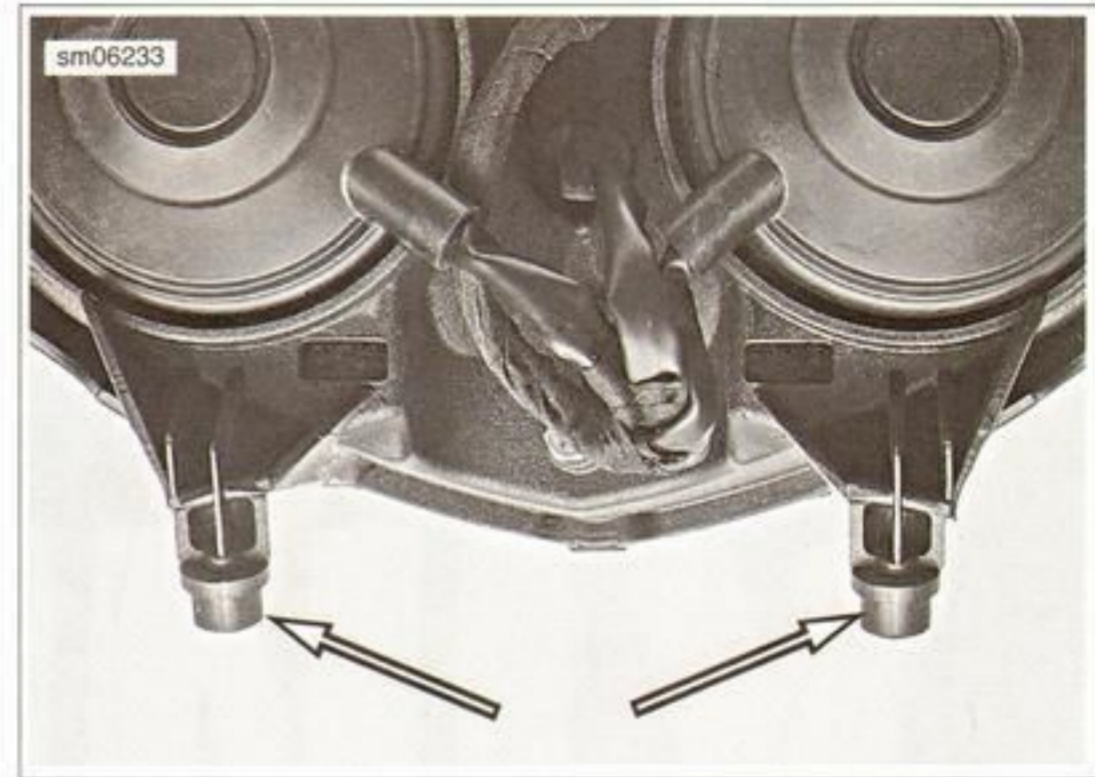

Figure 2-138. Rubber Grommets
3. See Figure 2-138. Press the rubber grommets into the lower fork clamp.